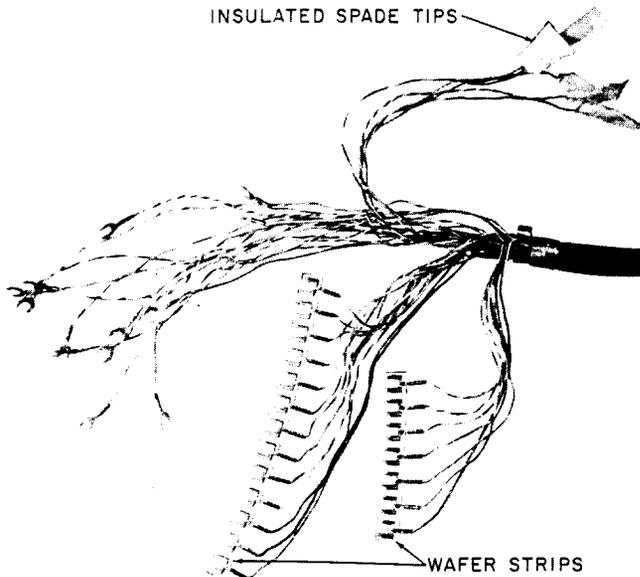

Fig. 2—Slotted Wafer Strip End of Mounting Cord, Later Type
2.07 Mounting cords of later manufacture feature a slotted wafer strip (Fig. 2) to facilitate replacement.